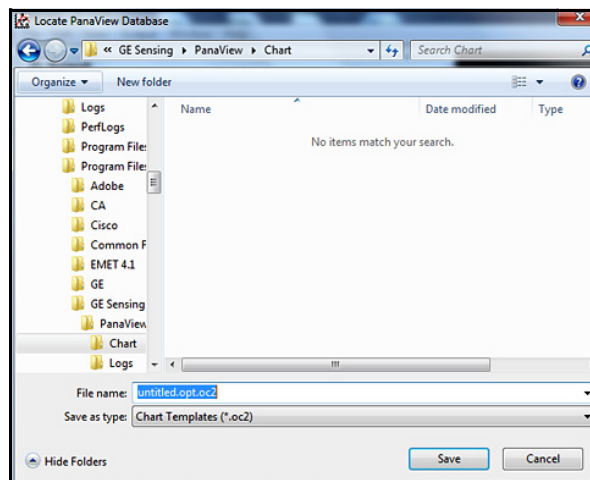

Figure 67: The Save Chart Style Dialog Box
- Click "Save Chart Style" option to save only the current graph properties (and not the parameters to be graphed) as a template for future graphs. When the dialog box in Figure 67 below opens, enter a name for the chart (graph) template file and click the [Save] button to save the file as: